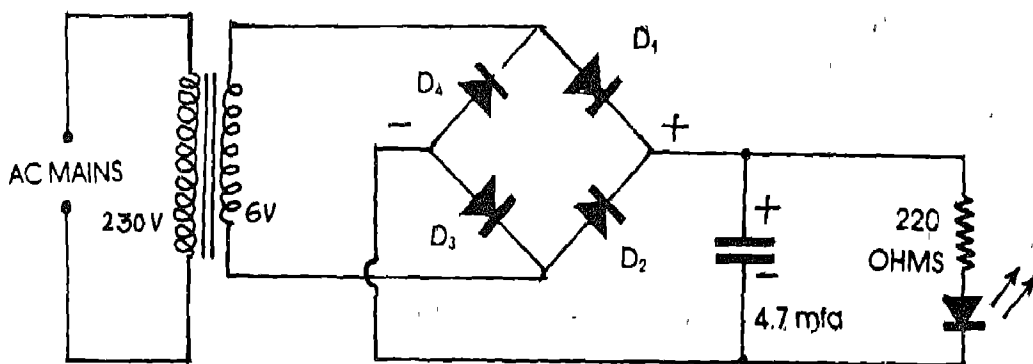

Fig. 4.1
current from both halves of the a-c waveform. Two diodes can be used to make a full wave rectifier. However, the most commonly used full wave rectifier has four diodes, connected in a bridge form as shown in the circuit diagram shown in Fig. 4.1.
1. Make the circuit as shown in Fig. 4.1 and observe the glow of the lamp.